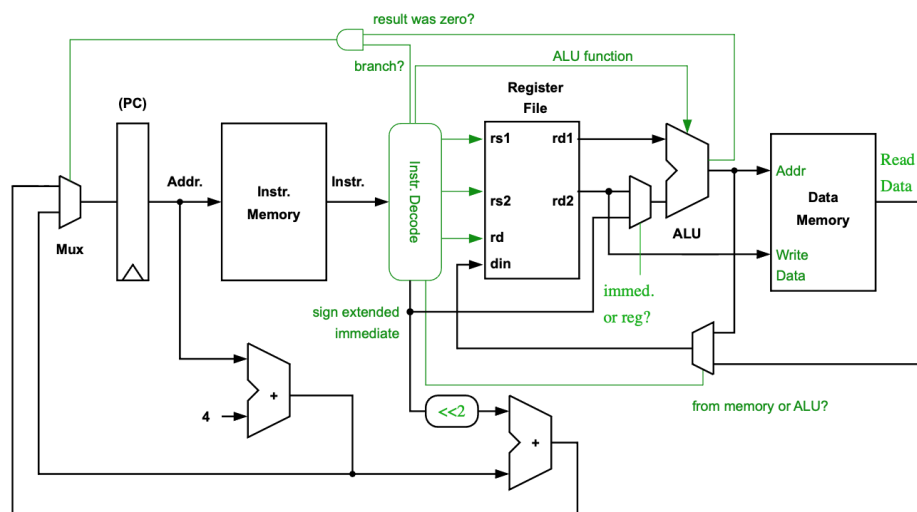

Figure 1.1: Microarchitecture of a generic processor
**Figure 1.1** shows the microarchitecture of a processor. Note that the diagram also includes the instruction and data memories which are not part of the processor itself. Among the components we can identify: